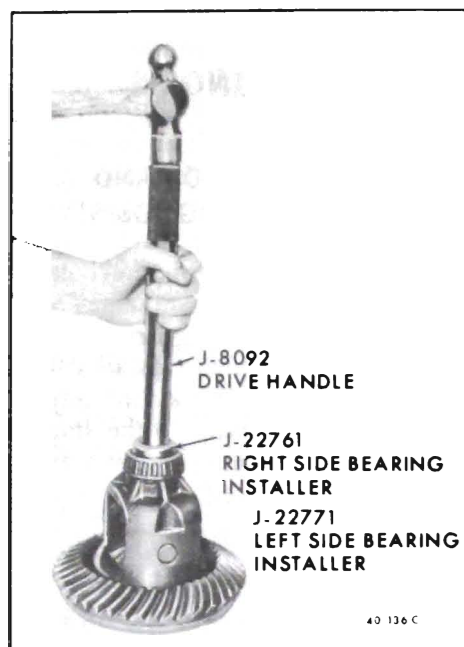

Figure 40-112 - Installing Differential Side Bearings
Installer J-22771 (L) and J-22761 (R) with Driver Handle J-8092. See Figure 40-112.